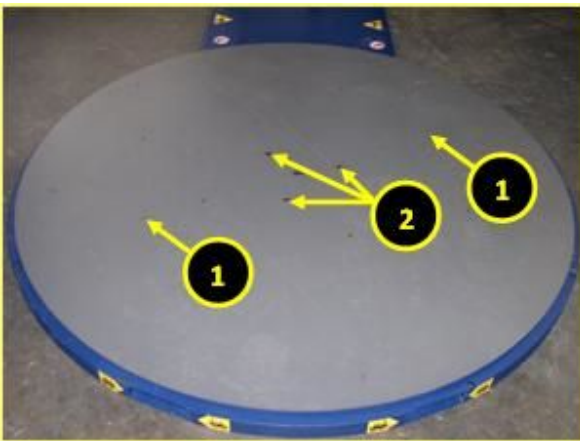

Figure 7.17
1. Install the eye bolts on the turntable in the tapped holes. (Figure 7.17)